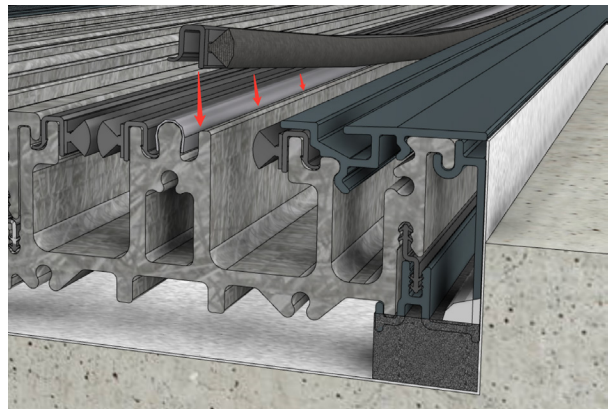

Fig 32
- Replace all the linear weatherstripping on the sill that was removed for drilling and fastening the sill down. (Fig. 32)
- Start by butting the weatherstrip up against the jambs, then press in place onto the vertical wall in the sill as shown in figure 32.